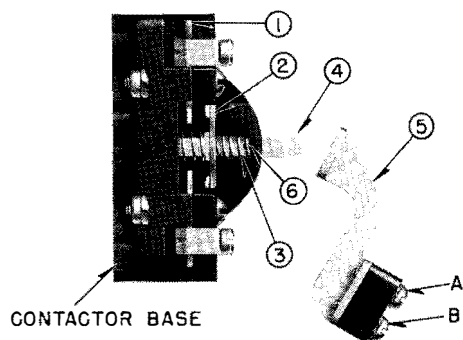
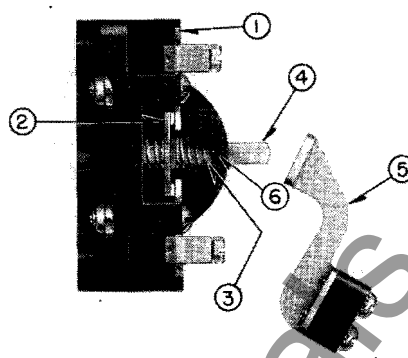

FIG. 2. Normally Open Interlock
FIG. 3. Normally Closed Interlock
shown in Fig. 2, and reassembling parts 1, 2 and 3 per Fig. 3, the interlock is changed from normally open to normally closed contact. The change is simplified by first placing the contactor in the normal vertical operating position and by proceeding as follows:
1. Swing arm (5) out of way by removing screw A and loosening screw B. (See Fig. 2).
2. To detach upper spring (3) from plunger (4) compress inturned end of spring against contact bar (2) and rotate spring until it disengages hole (6).
4. Operate reassembled interlock by hand to check freedom of moving parts before reassembling arm (5) into original position.